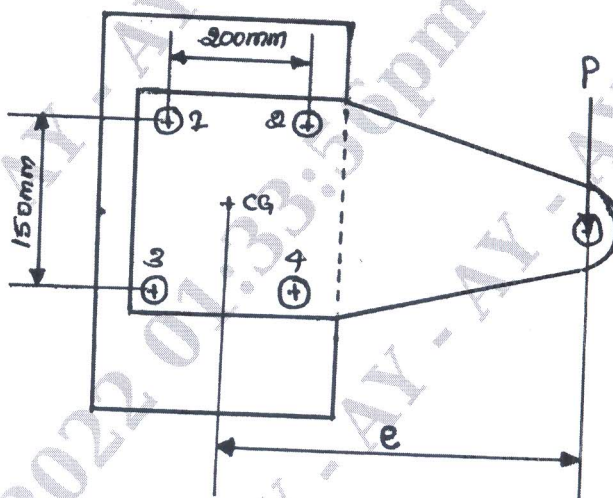

Fig Q9(b)
b. The structural connection shown in Fig Q9(b) is subjected to an eccentric load 'P' of 10kN with an eccentricity of 500mm. Determine size of bolt by taking FOS as 2.5 and  $\sigma_{yt} = 400\text{MPa}$ .